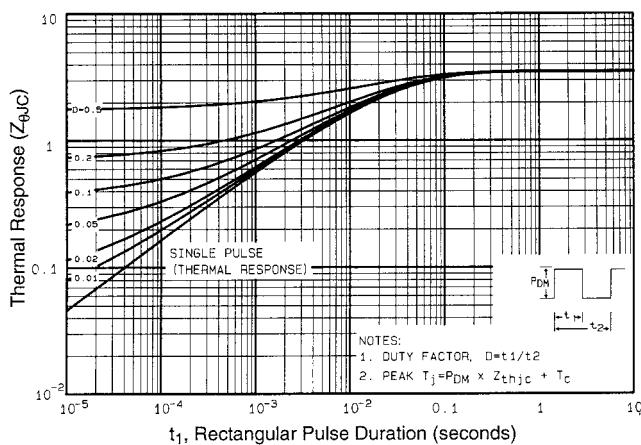

Fig 11. Maximum Effective Transient Thermal Impedance, Junction-to-Case
① Repetitive rating; pulse width limited by max. junction temperature (See Figure 11)
③ $I_{sp}\leq 2.7\text{A}$, $di/dt\leq 65\text{A}/\mu\text{s}$, $V_{DD}\leq V_{(\text{BR})\text{DSS}}$, $T_J\leq 150^\circ\text{C}$ ② $V_{DD}=50\text{V}$, starting $T_J=25^\circ\text{C}$, $L=13\text{mH}$